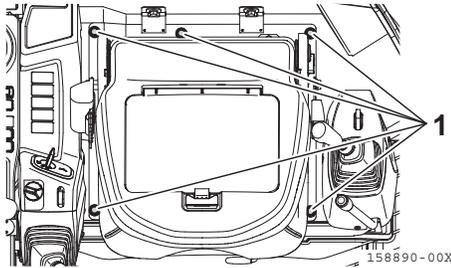

Fig. 2-70
2. Remove the five bolts (Fig. 2-70, 1) of the operator's seat bottom cover.
2. Put the operator's seat bottom cover down and then install and tighten the five bolts (Fig. 2-70, 1).